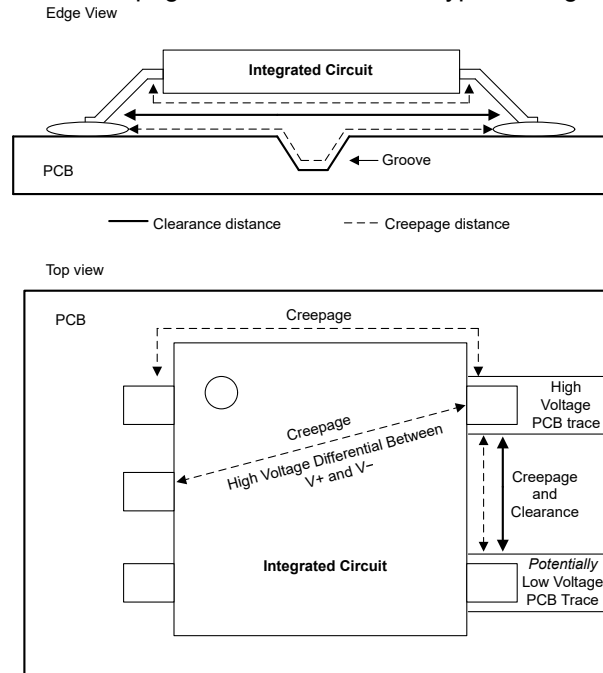

Figure 7-8. Creepage and Clearance in Integrated Circuits
When designing and building electrical systems with high voltage, two important concepts to consider are creepage and clearance. Creepage distance refers to the shortest path that an electric current can take along the surface of an insulating material, such as a printed circuit board (PCB) or a plastic enclosure. Clearance distance refers to the shortest distance between two conductive parts, such as wires, terminals, or components, through the air. Figure 7-8 illustrates creepage and clearance for a typical integrated circuit (IC).